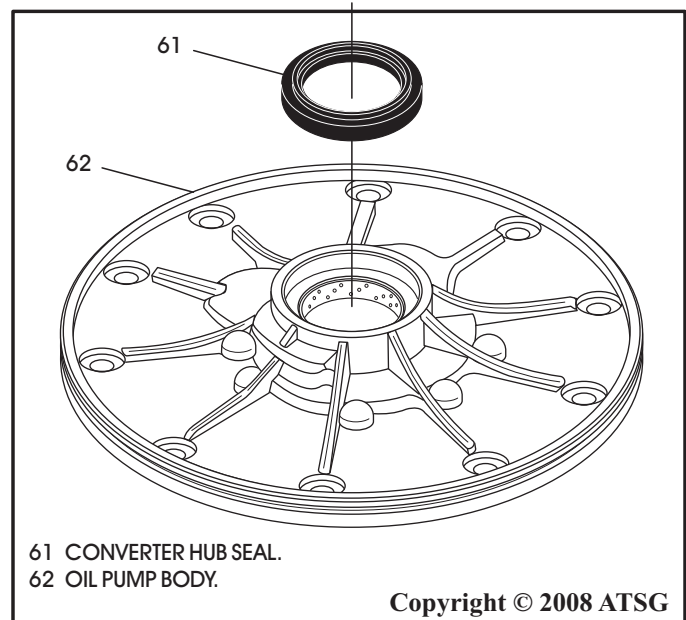

Figure 79
6. Turn the oil pump body over and install a new converter seal, as shown in Figure 79, using the proper seal driver.